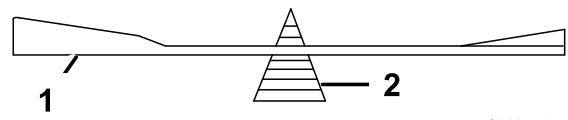

Figure 35
2. Check the balance of the blade by putting it on a blade balancer (Figure 35).